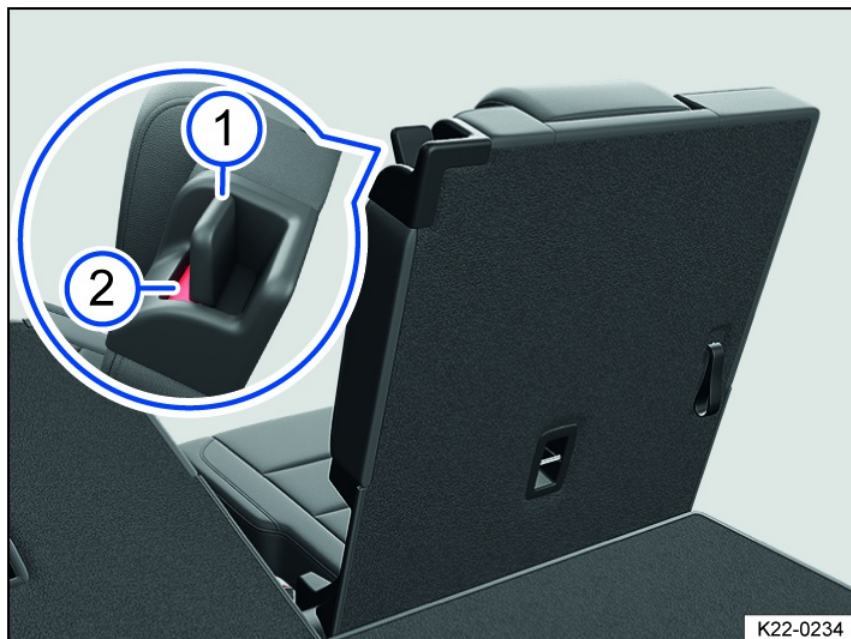

Fig. 86 Third row seat: folding the rear seat into the cargo floor position.
7. To release the rear seat backrest, pull the release lever *fig. 86* all the way back.
The red marking on the release lever *fig. 86* must no longer be visible.
- A red marking on the release lever *fig. 86* indicates that the rear seat backrest is not latched. The red marking must not be visible when the backrest is latched.